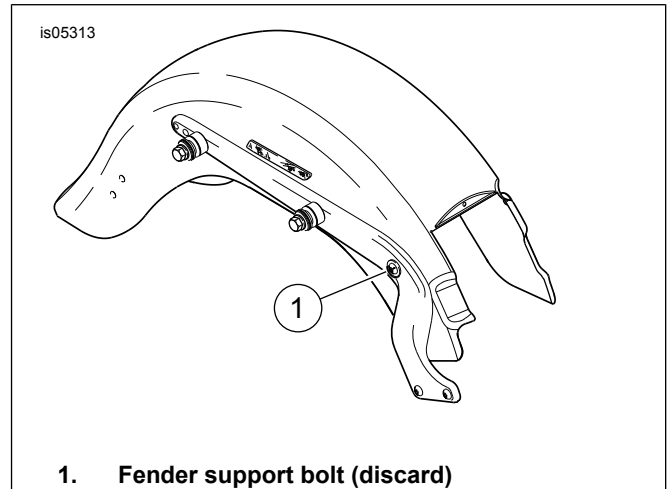

Figure 1. Remove Docking Hardware
2. See Figure 1. Remove and discard the forwardmost fender support bolt (1). Repeat for the other side.